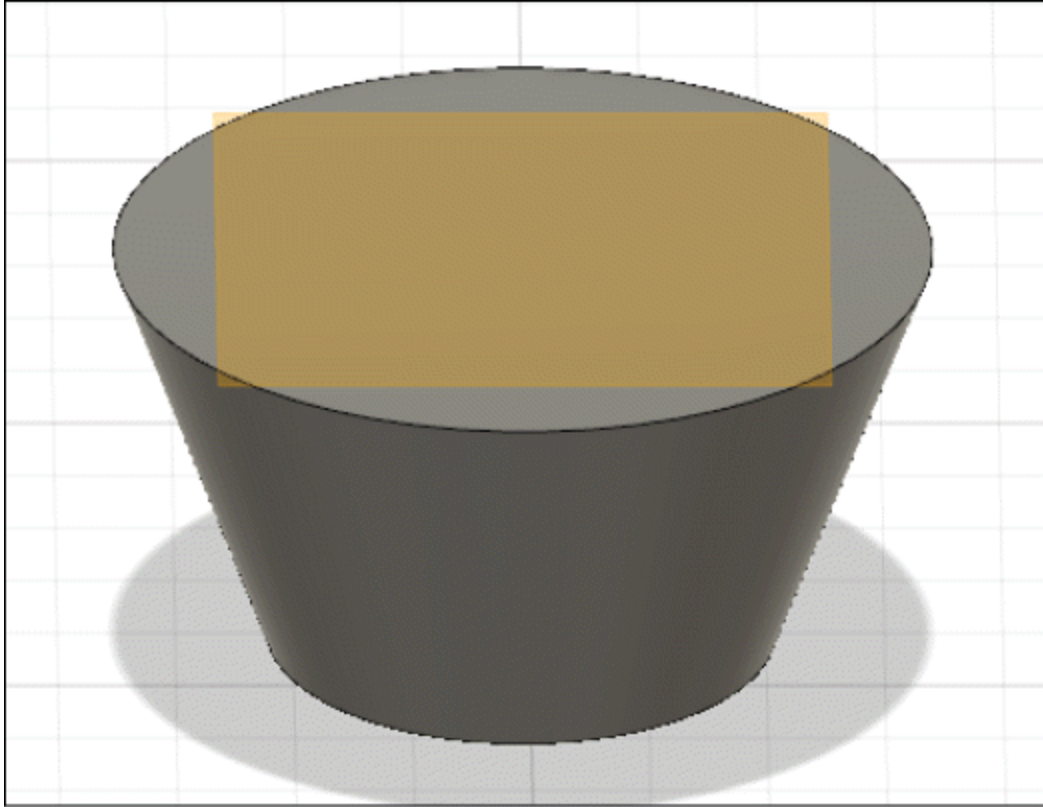

Figure-121. Result of boundary fill after hiding parent body
- Click **OK** button of **BOUNDARY FILL** dialog box to finish the process; refer to Figure-121. If the parent body is overlapping with new boundary fill bodies then hide the parent body using eye icon in **BROWSER** to check the result.